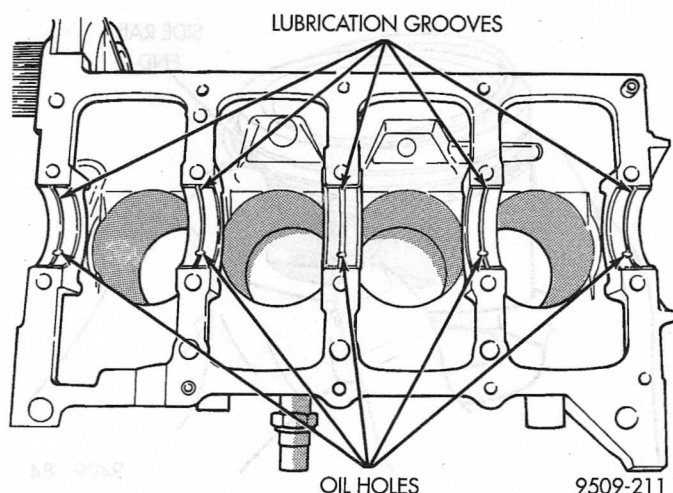

Fig. 11 Installing Main Bearing Upper Shell
(1) Install the main bearing shells with the lubrication groove in the cylinder block (Fig. 11).
(2) Make certain oil holes in block line up with oil holes in bearings. Bearing tabs must seat in the block tab slots.